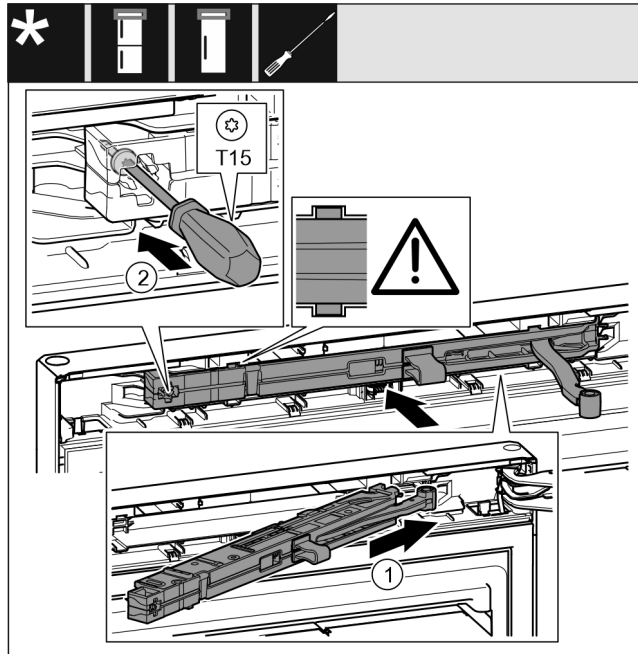

Fig. 47
- ▶ Slide the soft stop unit on the bearing bracket side at an angle into the slot as far as it will go. Fig. 47 (1)
- ▶ Tighten the screw with a T15 screwdriver. Fig. 47 (2)